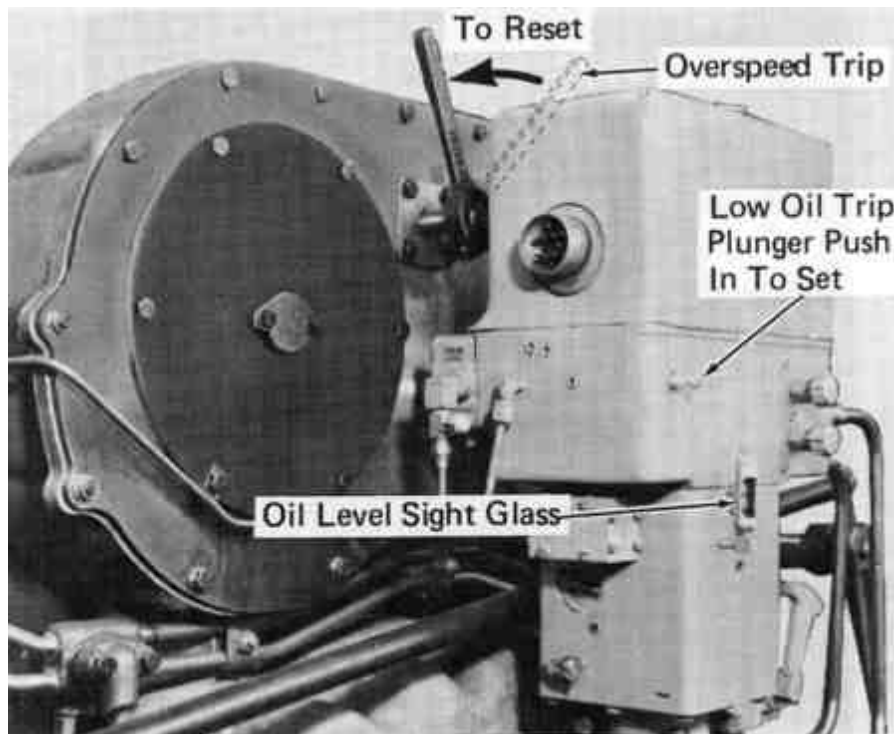

Fig.3-1 - Engine Overspeed Trip And Low Oil Pressure Trip Plunger
1. Check to see that engine overspeed lever is set, Fig. 3-1.
2. Observe that governor low oil pressure trip plunger, Fig. 3-1, is set and that there is oil visible in the governor sight glass.